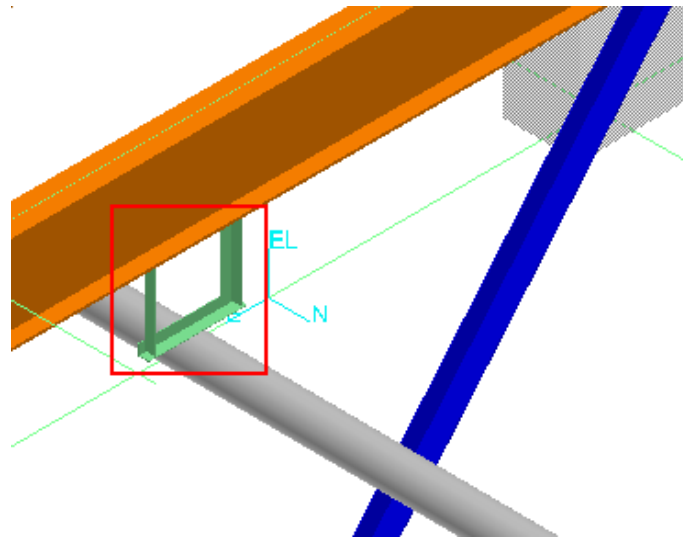

Figure 4: Placed Support by Structure: U Shaped Frame L2x2x1/8 w/o Baseplate
- A standard support **U Shaped Frame L2x2x1/8 w/o Base plate** by structure, using the indicated pipe straight feature on pipeline **2001-P** and the indicated steel beam that crosses the pipe straight feature should have been placed by using the **Place Support by Structure** command. The placed support should resemble the highlighted support in Figure 4.